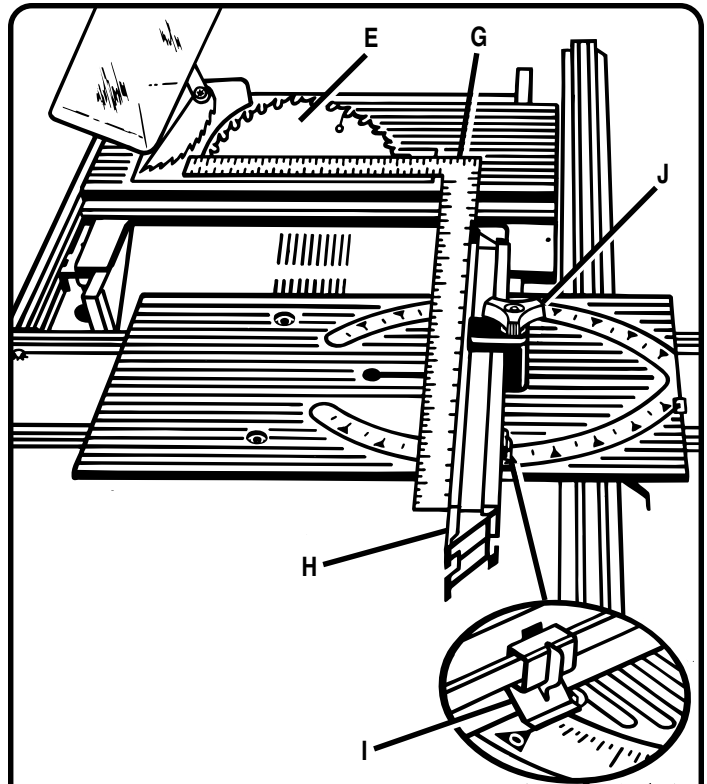

Figure 52: Miter Table Alignment
1. Set the miter fence (H) at 0° as shown in figure 52. Miter indicator (I) should be set precisely on 0° and secured in place with adjusting clamp (J).
2. Place a framing square (G) firmly against the miter fence (H), with the other side against the blade (E). See Figure 52.
1. Set the miter fence (H) at  $0^\circ$  as shown in figure 52. Miter indicator (I) should be set precisely on  $0^\circ$  and secured in place with adjusting clamp (J).